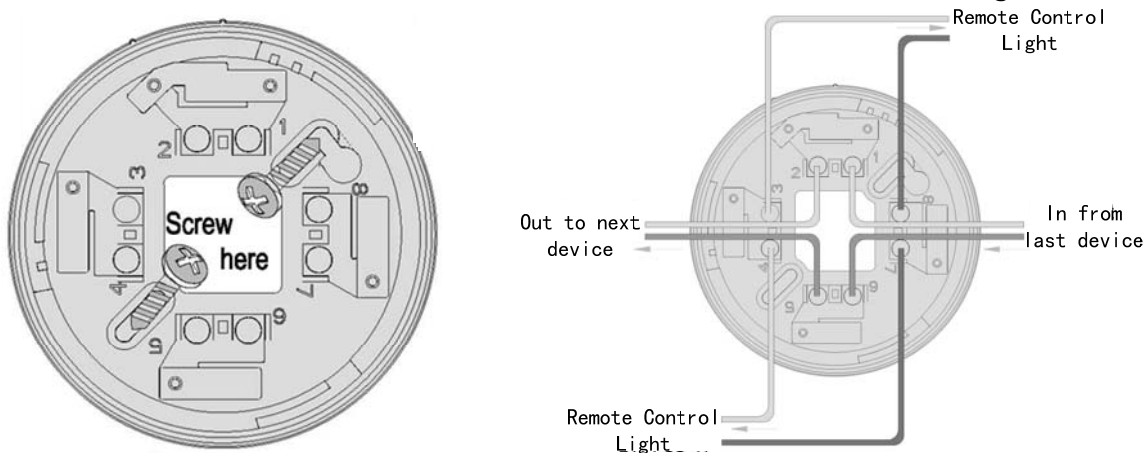

Fig.1 TX7980 base structure and the terminals connection diagram
1. Install the TX7980-type base in the position where the Addressable Sounder Base will be installed. Following the arrow mark for the correct position. Do not over-tighten the screws otherwise the base will twist. Use M4 standard screws. Terminals 1 and 6 are the bus signal inputs for connection to the last device. Terminals 2 and 5 are the bus signal outputs for connection to the next device. Terminals 3&8 or 4&7 are used to connect remote indicators, Where terminals 3&4 are positive and terminals 7&8 are negative. TX7980-type base structure and the terminals connection diagram as shown in Figure 1.